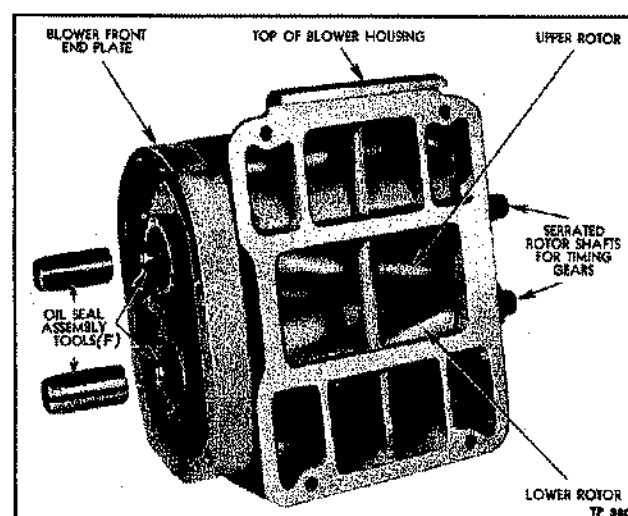

Figure 20—Installing Rotors in Housing, Using Oil Seal Tools
1. Install one oil seal pilot over short end (non-splined) of each rotor shaft and with rotors in mesh and omitted serrations toward top of blower housing, slip rotors into housing. See fig. 20.)